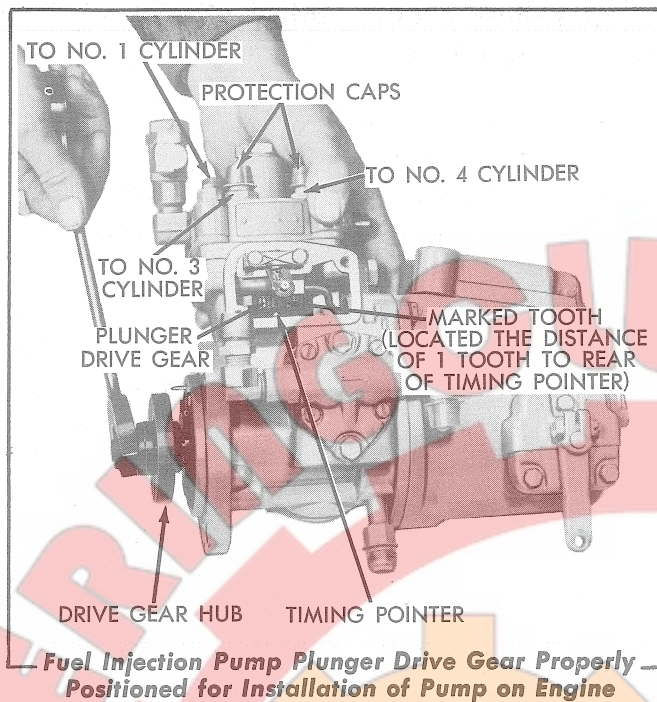
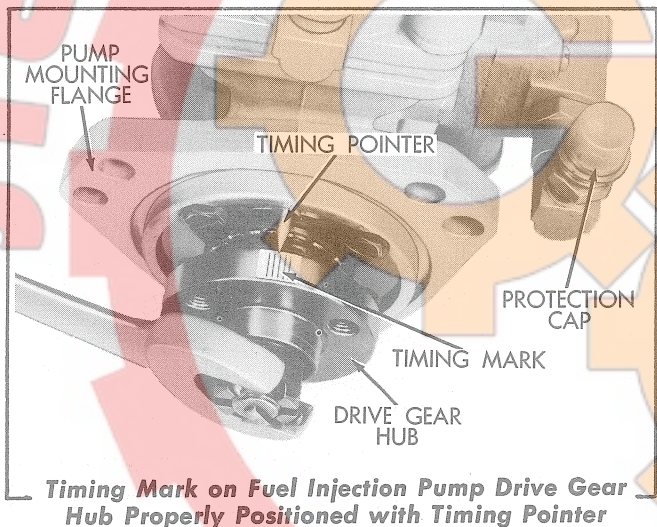

FIG. 25
FIG. 26
- a. Remove the timing window cover (Fig. 20) from the fuel injection pump. One tooth of the plunger drive gear is marked (painted red) for timing the fuel injection pump for injection of fuel to the No. 1 cylinder. Referring to Fig. 25, turn the drive gear hub of the fuel injection pump until the marked tooth of the plunger drive gear is positioned approximately the distance of one (1) tooth to the REAR of the timing pointer in the pump housing, then hold the drive gear hub stationary. While holding the drive gear hub in the above position, the center timing mark on the drive gear hub should be aligned with the timing pointer as shown in Fig. 26. When the drive gear hub is released for the installation of the pump on the engine, the spring pressure on the cam of the pump camshaft will rotate the drive gear hub slightly in the counter-clockwise direction.